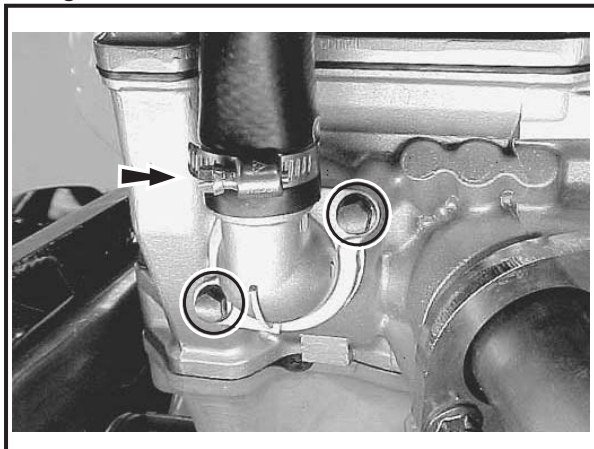

Fig. 1
- 1 Remove stock exhaust system by following the below listed steps (See Fig. 1 & 2)
2. Loosen the muffler clamp bolt ①
3. Remove the two muffler clamp mounting bolts and save them. (A)
4. Remove the muffler ②
5. Remove the radiator lower mounting bolt and push lower end of the radiator forward. ③
6. Remove the thermostat cover ④ and thermostat (See below for thermostat removal instructions).
7. Remove the stock exhaust header pipe. ⑤